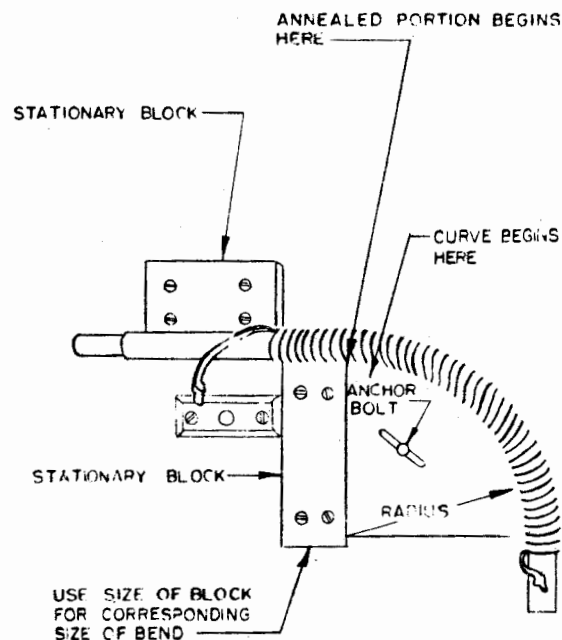

Figure 11-86. Method of Bending Line
(1) With the spring in place, grasp the ends and twist so as to tighten it, thus giving an absolutely tight fit over the tubing.
(2) The wood form is clamped solidly to the bench. An anchor block should also be clamped to the bench to keep proper alignment as shown in Figure 11-86.
(3) The tubing is then pulled around the form by hand, moving the spring along as necessary until the end of the portion to be bent is reached. The final bend should carry the spring one inch beyond the end of the bend, same as at the start. Never use a hammer or mallet to drive the tubing around the form.
(4) The spring is removed the same way it was put on, twist it to expand, and slide it off.
(5) On 90° bends, a six-inch radius is the sharpest recommended for this method of bending the 7/8 inch line. Even on this radius, some slight flattening is produced on the outside knee of the bend, but not enough to affect the electrical characteristics of the line. For 1-5/8 inch line the minimum radius is 24 inches.
(6) As soon as a bent section is completed, the ends should be capped using the caps supplied with the line. If the outer conductor is cut back to allow the inner conductor to project, cap with a solderless coupling. In all cases, the